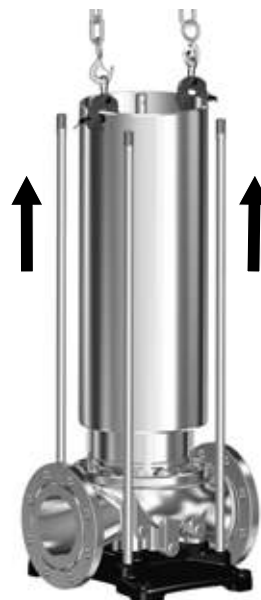

Fig. 1 Service tool N fitted on sleeve (55)
3. Loosen the three set screws (113) of the shaft seal (105). Note that the set screws must be loosened no more than 1/4 turn.
5. Carefully lift the shaft seal (105) off the shaft (51). Note: Shaft seals fitted on pumps with $\varnothing 28$ and $\varnothing 36$ pump shafts can be fitted with new wear parts. See section 6. *Renewing shaft-seal wear parts*.
7. Remove nuts (36) and washers (66a).
9. Remove the pump head cover (2). It may be necessary to loosen it from the sleeve (55) using a plastic hammer.
10. Remove the o-ring (37) from the pump head cover.
11. Pull out the outlet part (44a) from the pump head cover (2).
12. CR pumps only: Remove the four screws (2d) and the brackets (2c) from the pump head cover (2).
13. Fit service tool N on the pump sleeve (55). See fig. 1.